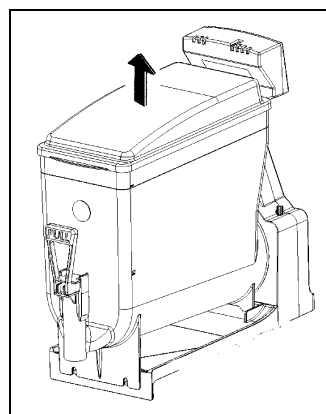

Fig. 18
- Remove the secondary transparent cover (fig.18).